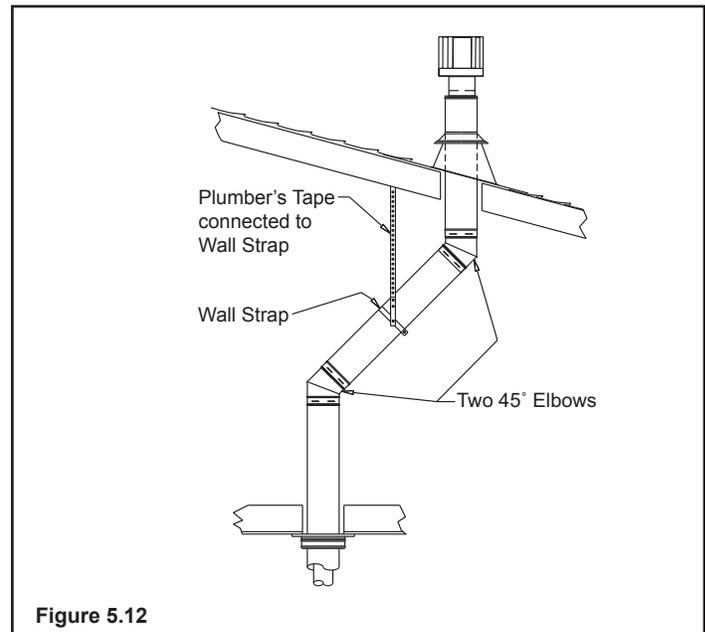

Figure 5.12
Set the gas appliance in its desired location. Drop a plumb bob down from the ceiling to the position of the appliance flue exit, and mark the location where the vent will penetrate the ceiling. Drill a small hole at this point. Next, drop a plumb bob from the roof to the hole previously drilled in the ceiling, and mark the spot where the vent will penetrate the roof. Determine if ceiling joists, roof rafters, or other framing will obstruct the venting system. You may wish to relocate the appliance, or to offset, as shown in **Figure 5.12** to avoid cutting loadbearing members.
- (1) If an offset is necessary in the attic to avoid obstructions, it is important to support the vent pipe every 3 ft. (914mm) to avoid excessive stress on the elbows, and possible separation. Wall straps are available for this purpose, **Figure 5.12**, page 15.
- (2) Whenever possible, use 45° elbows, instead of 90° elbows. The 45° elbow offers less restriction to the flow of flue gases and intake air.